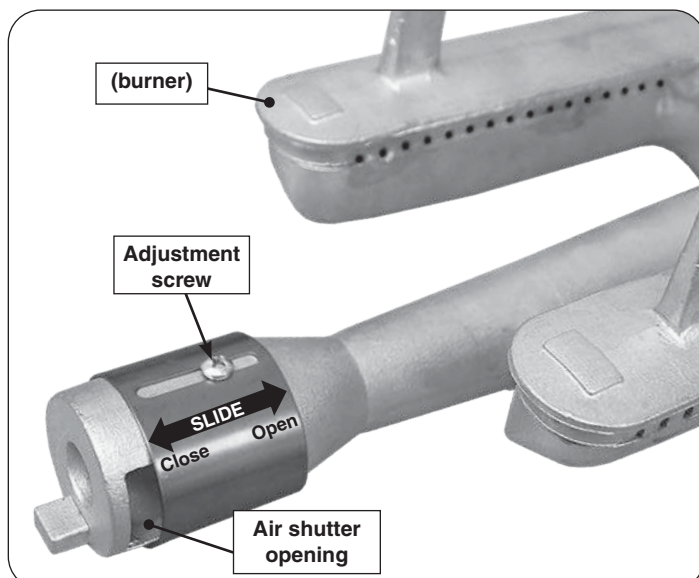

Fig. 41-2 Main burner air shutter adjustment detail
1. To adjust the air shutter, loosen the adjustment screw with a Phillips screwdriver. Then slide the shutter to open or close it. See Fig. 41-2 for details.